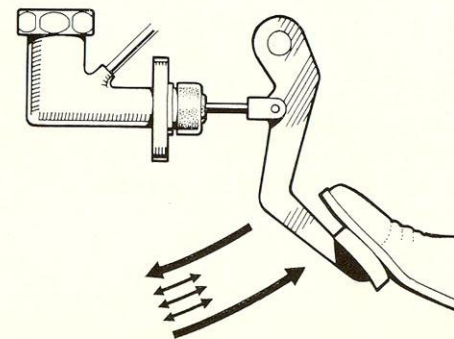

Figure 30
- 3 Unscrew the bleed valve about three quarters of a turn. Your assistant should now operate the brake pedal. The operation of the brake pedal is important. The pedal should be pushed down hard through the full stroke, followed by three short rapid strokes and then the pedal should be allowed to return quickly to its stop with the foot right off. (see **Figure 30**).